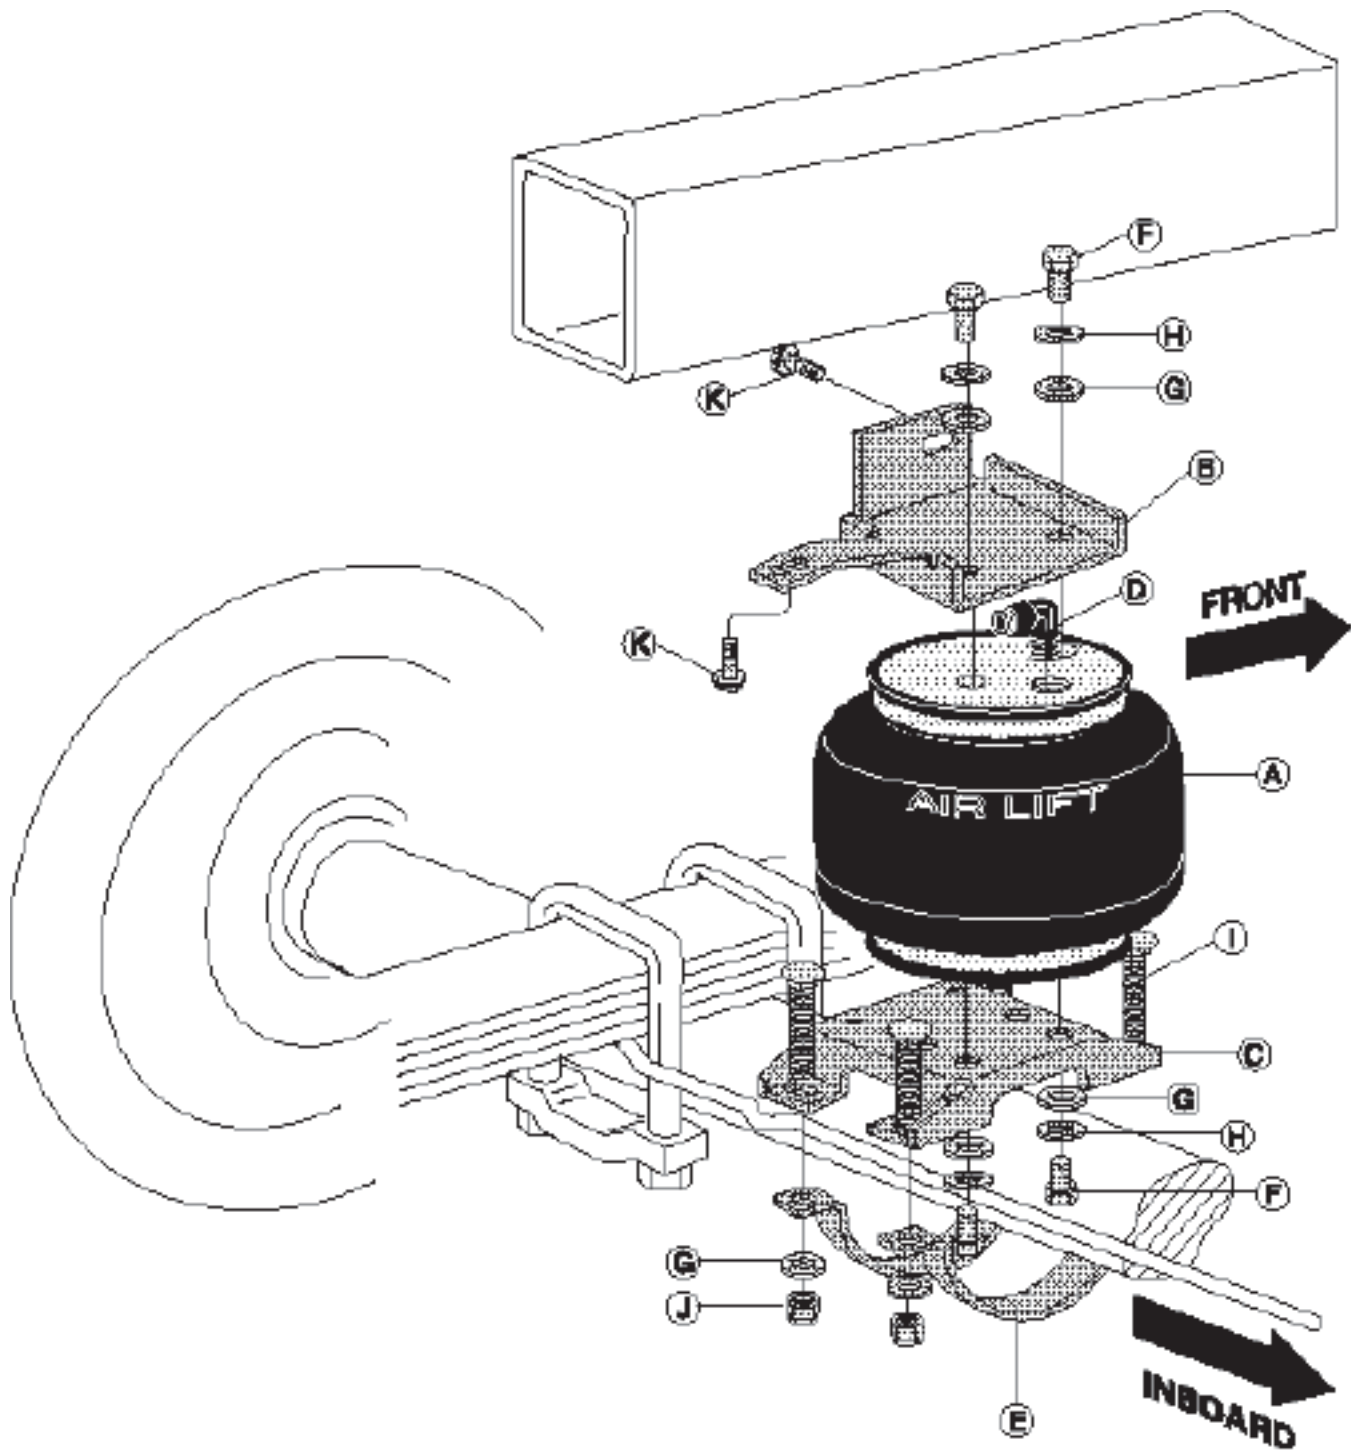

fig. 1
1. Install 90 degree air swivel fitting (D) to the top of the bellow. This fitting is precoated with sealant. Using an open-end wrench, tighten 1 1/2 turns (Figs. 1 & 2).
2. Attach the upper bracket to the top plate (label end) of the bellows with two bolts (F), lock washers (H), and flat washers (G). Torque to 20 lb.-ft. Assemble both units (Figures 1 and 2) in this manner. There are left and right hand units (indicated by "LH" or "RH" stamped in the bracket).
7. Using the holes in the upper bracket as a template, drill two 5/16" holes into the frame. Insert and tighten the self tapping bolts (K) and torque to 15 lb.-ft. (Figs. 1 & 7).